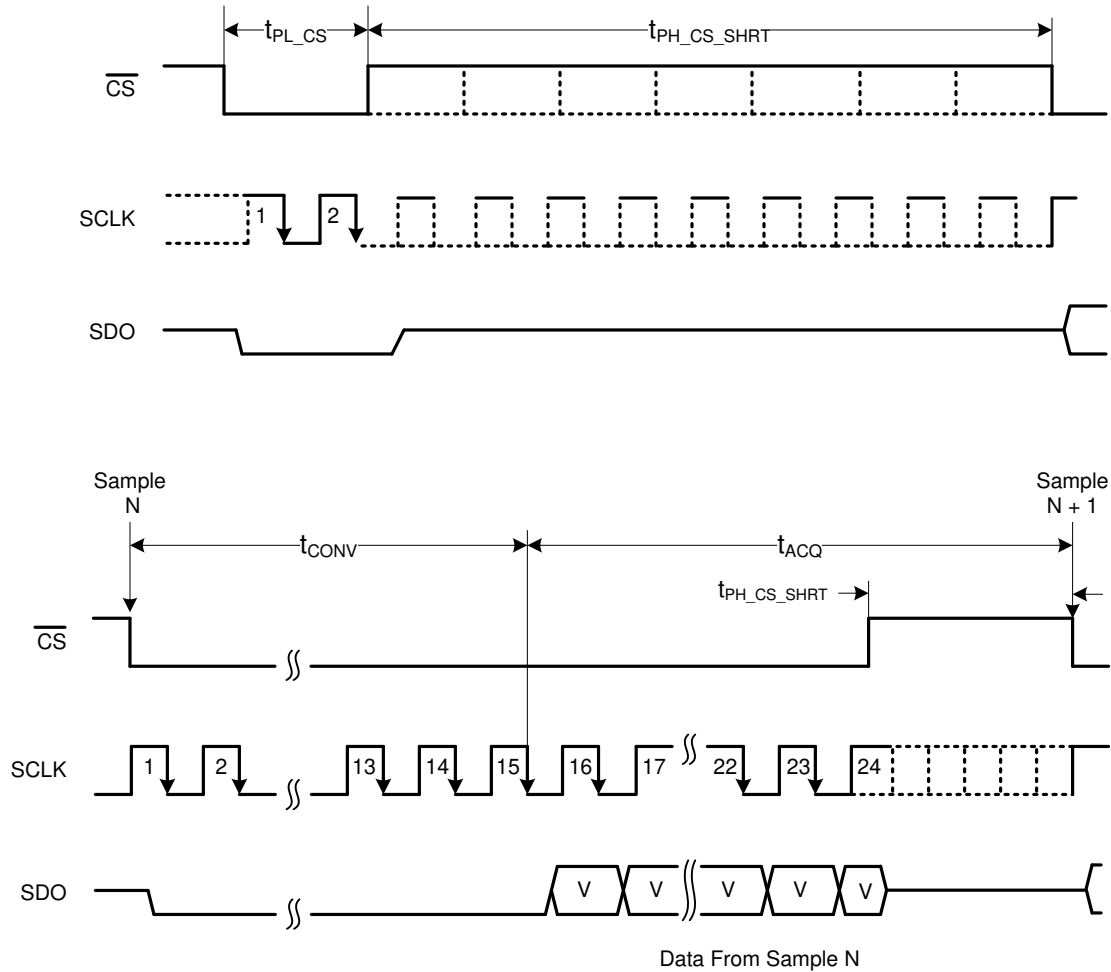

Figure 7-12. Frame Abort, Reconversion, or Short-Cycling Feature
As shown in Figure 7-12, the minimum number of SCLK falling edges (N) that must be provided between the beginning and end of the frame depends on the serial interface mode. The SCLK falling edges (N) program the device and retrieve the conversion result. If \overline{CS} is brought high before the expected number of SCLK falling edges are provided, the current frame is aborted and the device starts sampling the new analog input signal.